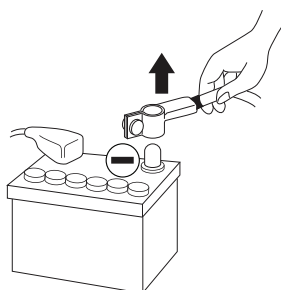

fig. 1
- **Before beginning installation, disconnect the negative terminal of the battery to avoid any risk of injury, fire or material damage (fig. 1).**
- 2 - Disconnect the battery's negative wire before installation (*fig.1*).
Before beginning the connection phase, remove the negative (-) terminal from the battery of the vehicle (*fig.1*).